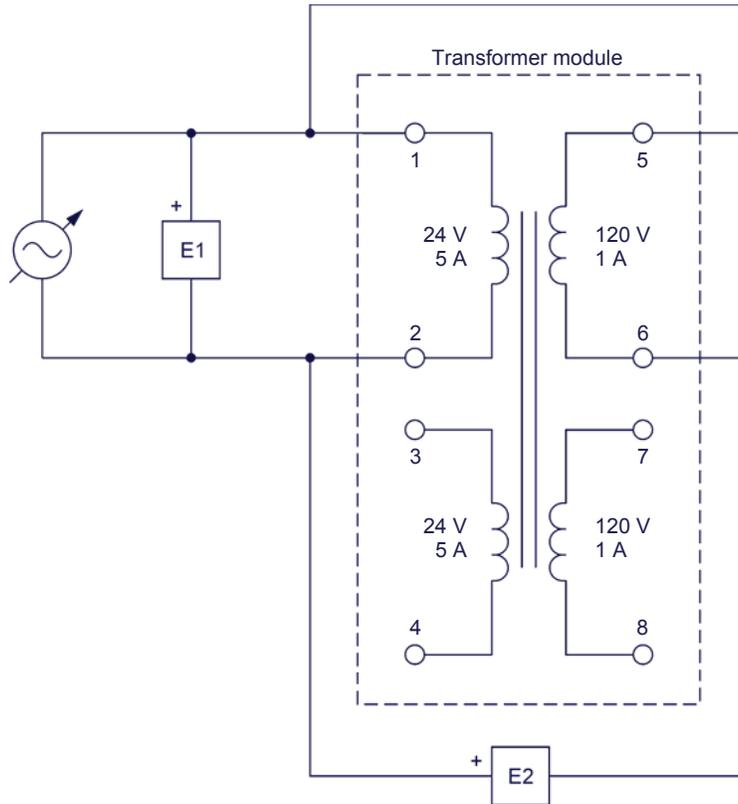

Figure 17. Circuit for determining transformer winding polarity using a voltmeter.
17. Connect the equipment as shown in Figure 17. In this circuit, one of the secondary windings (winding 5-6) of the power transformer is connected in series with the primary winding (winding 1-2).